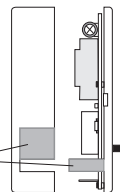

Fig. 5.i
From the base, remove the parts prepared for the passage of the connection wires shown in fig. 5.i.
- Attach the base to the wall (or built-in box), with 2 screws using the pairs of holes (A-A, B-B, -C-C) provided (fig. 5.i).